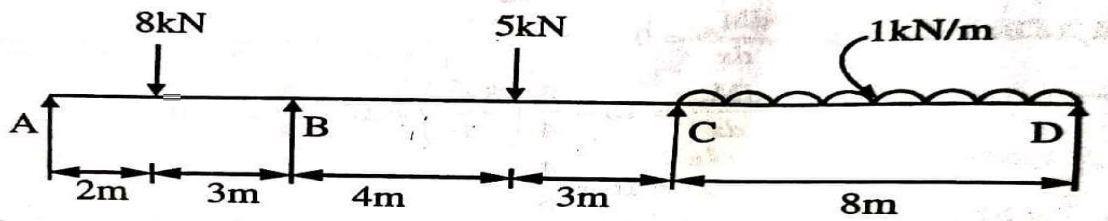

Fig. 4
8. A continuous beam ABCD, 20m long in simply supported at its ends and is propped at the same level at B and C as shown in Fig. 4. If support B is sinks by 10mm, analyse the beam by moment distribution method and draw the bending moment diagram. Take $E = 2.1 \times 10^5 \text{ N/mm}^2$ and $I = 85 \times 10^5 \text{ mm}^4$. 14M